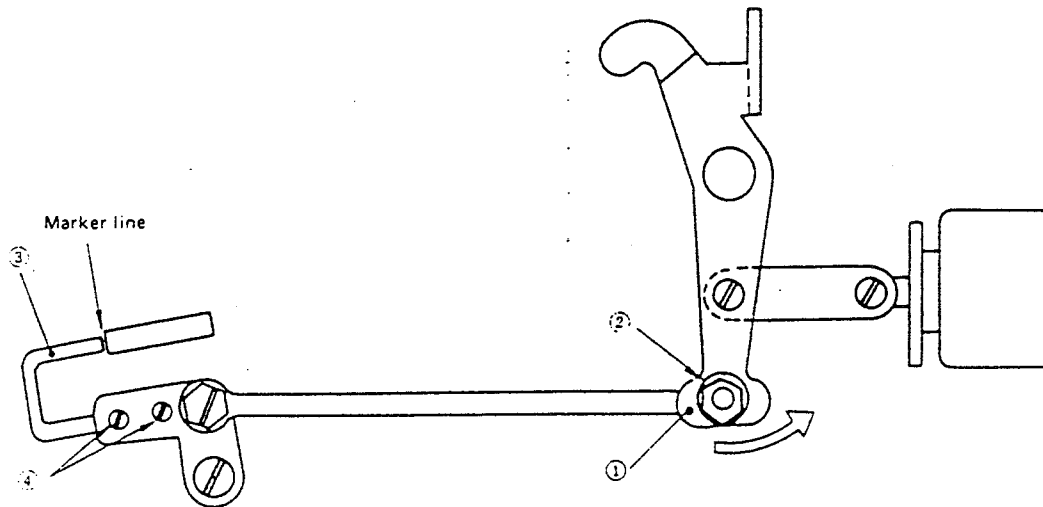
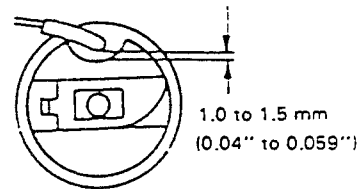

Fig. 27
Fig. 28
If thread take-up picker ③ (Fig. 27) enters the bobbin case too deeply at the time of thread trimming, the bobbin does not turn, and the bobbin thread is cut too short, causing stitch skipping at the start of sewing. On the contrary, if the entrance of the thread take-up picker into the bobbin case is not enough, the needle thread slips off the tip of the thread take-up picker at the time of thread trimming. As a result, the thread remaining on the needle after trimming becomes too short, causing the thread to slip off the needle.
With clutch disc ① (Fig. 27) pushed in the direction of arrow (to the right), make adjustment so that the bobbin thread can be pulled out smoothly.
At this time, perform the adjustment so that a clearance of 1.0 to 1.5 mm (0.04" to 0.059") is provided between the tip of the thread take-up picker (bobbin winder trip latch) and the middle of the top recess of the bobbin case, and also the rear end of the bobbin winder trip latch is aligned with the marker line of the thread take-up picker. (Fig. 28)
After loosening screws ④ (Fig. 27), adjust so that the tip of the thread take-up picker (bobbin winder trip latch) is positioned as shown in Fig. 28. To adjust the entrance of the thread take-up picker into the bobbin case, move stopper ② (Fig. 27). After completion of the above adjustment, retighten the nut of the stopper.